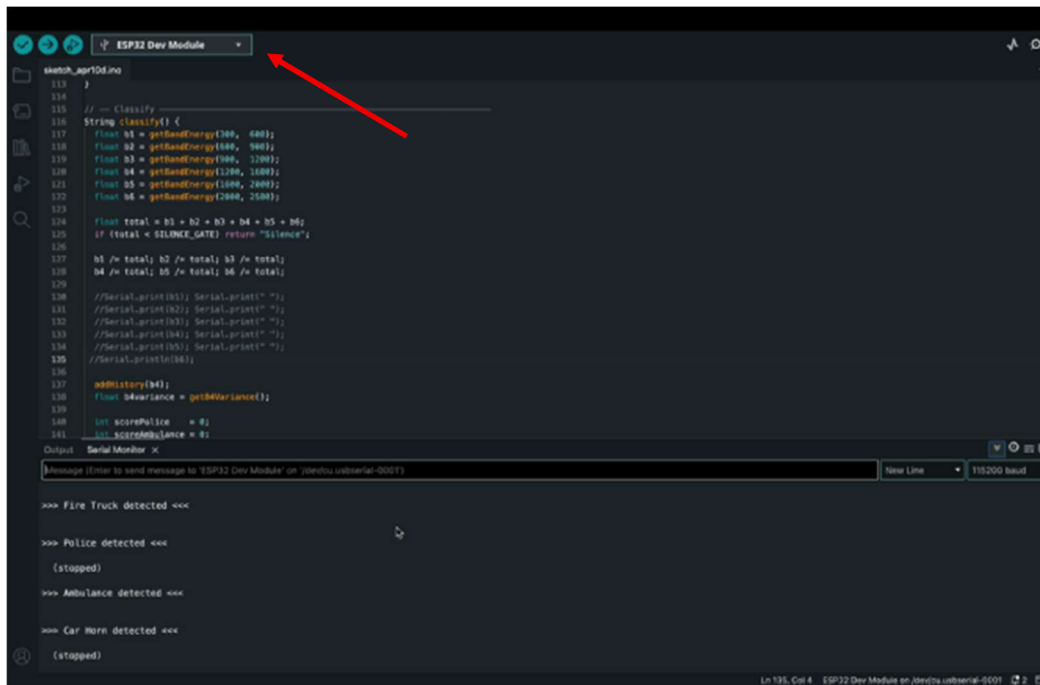

Figure 9. Check the correct board and port.
4. Select the correct board and port. (As shown in Figure 9)